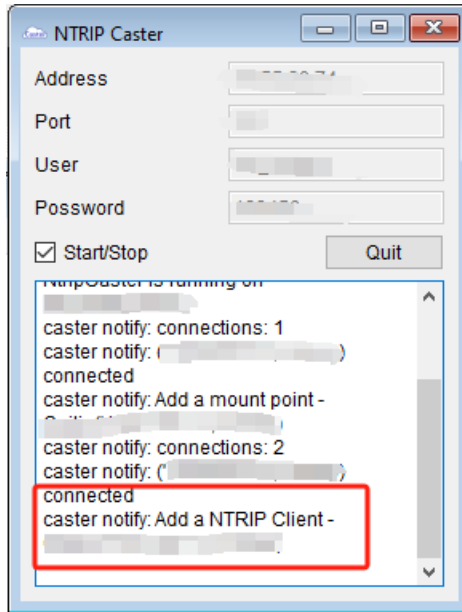

Figure 16: Successful Connection of NTRIP Client to NTRIP Caster
Step 4 Click  to open the NTRIP Client and enter the IP address, port, username and password of the NTRIP Caster to be connected and the mount point. Turn on the **“Connect To Host”** switch to start NTRIP Client. If the NTRIP Client successfully connects to the NTRIP Caster, you can see the connection information in the NTRIP Caster, as shown in Figure 16: Successful Connection of NTRIP Client to NTRIP Caster.